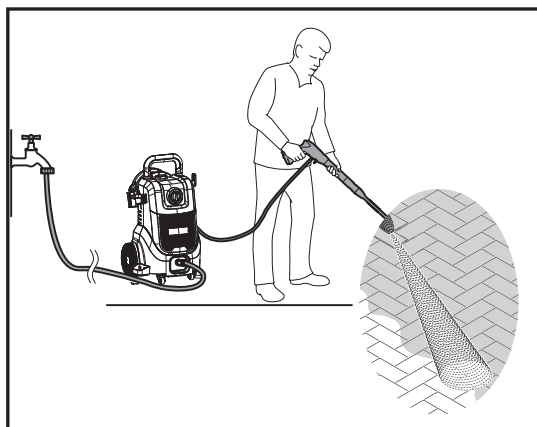

Fig. 20
2. Set a required spray pattern if using the variable nozzle (20).
4. Hold the spray gun (16) with both hands.
5. Switch on the machine by rotating the on/off rotary switch (3) to "I" position.
7. Fully press the spray gun trigger (16a) to start the water jet as shown in Fig. 20.